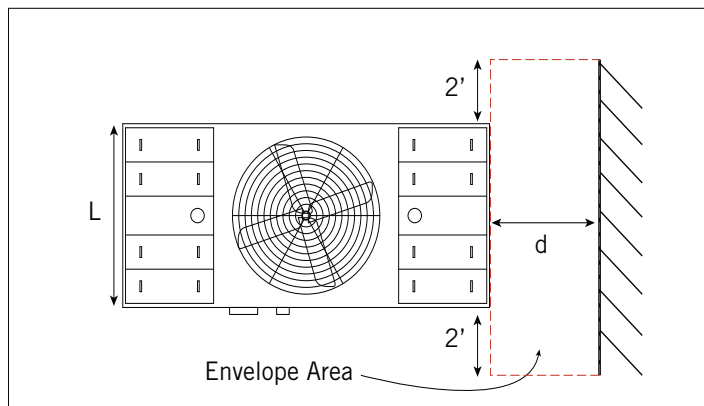

Figure 2a. Plan View of a Dual Air Intake Unit Adjacent to Wall
2. **Air Intake Requirements:** Should it be necessary to install a unit with the air intake facing a wall, provide at least distance “d” between the air intake and the wall, as illustrated in Figures 2a and 2b.
The envelope area as illustrated on **Figures 2a** and **2b** on **page 3** is $[(L + 2 + 2) * d] + [2(H + h) * d]$, where: